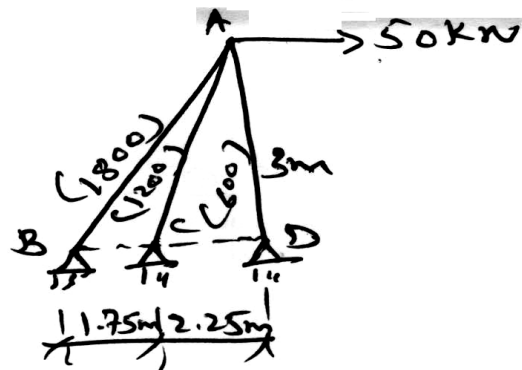

Fig Q10
- 10 Analyse the pin jointed frame shown in Fig Q10, by stiffness matrix method. The area of member in sq mm shown in parentheses.